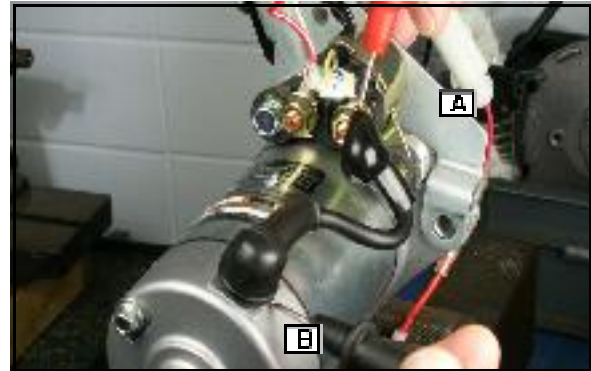

Fig. 59
5. Test for continuity at the output terminal (A) of the solenoid with the key in the **START** position and ground ([B] Fig. 59).